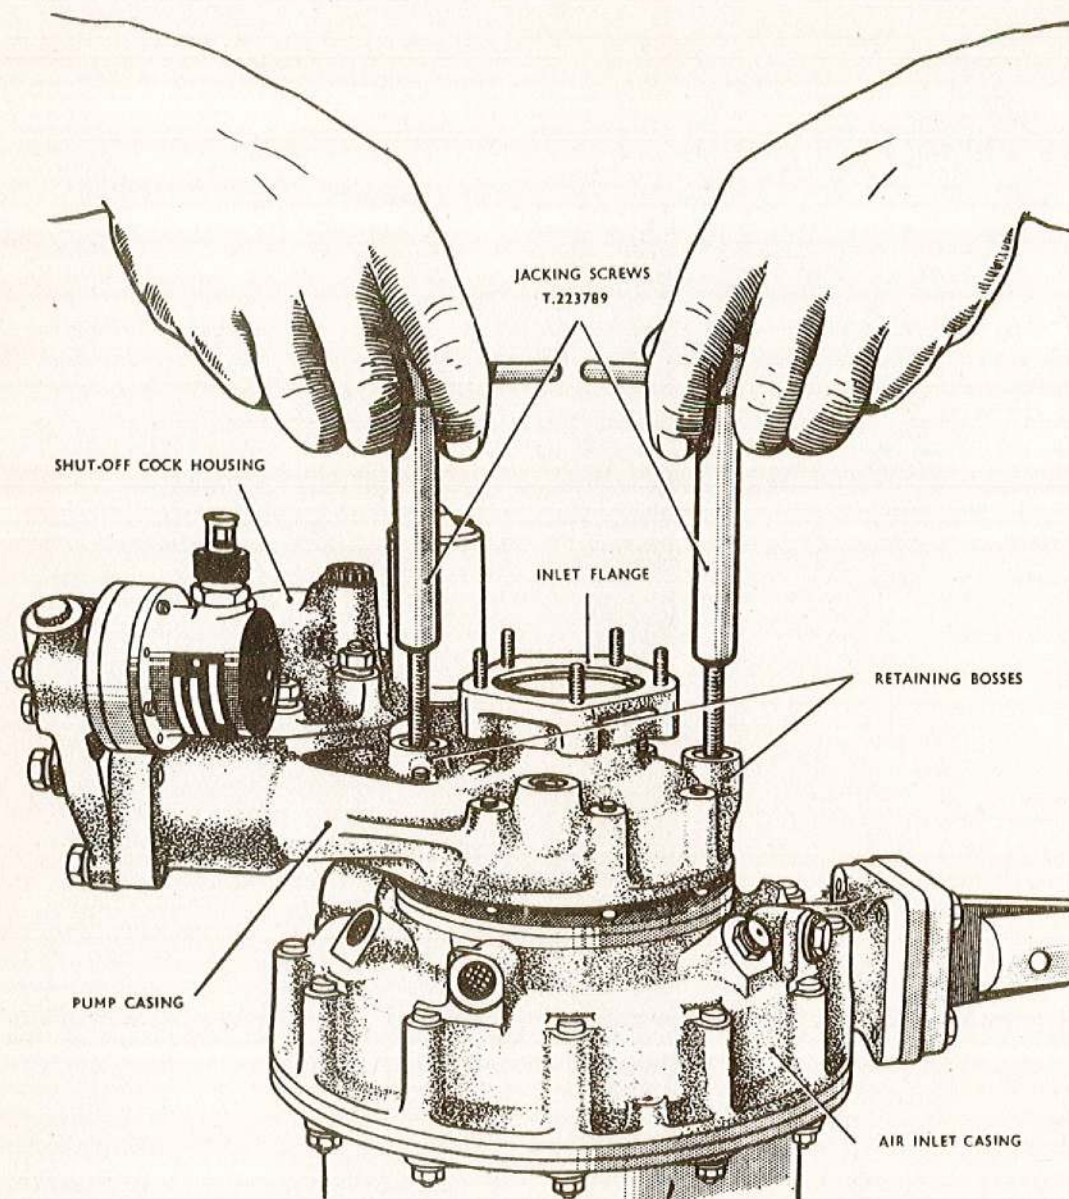

Fig. 3. Removing the pump casing
22. If the casing does not free itself from the air inlet casing, tap it lightly with a hide hammer. Should this fail to release the casing, insert the two special stripping tools T.223789 into the steadying bracket retaining bosses shown in fig. 3 and screw in evenly. The other two bosses are blind holes and cannot be used for jacking purposes.